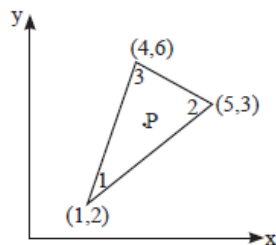

Figure 3
- 6 a The nodal co-ordinates of a triangular element are shown in Figure 3. The x - coordinates of an interior point P is 3.3 and shape function.  $N_1 = 0.3$ . Determine  $N_2$ ,  $N_3$  and y - coordinate point P. 04 CO3 L2